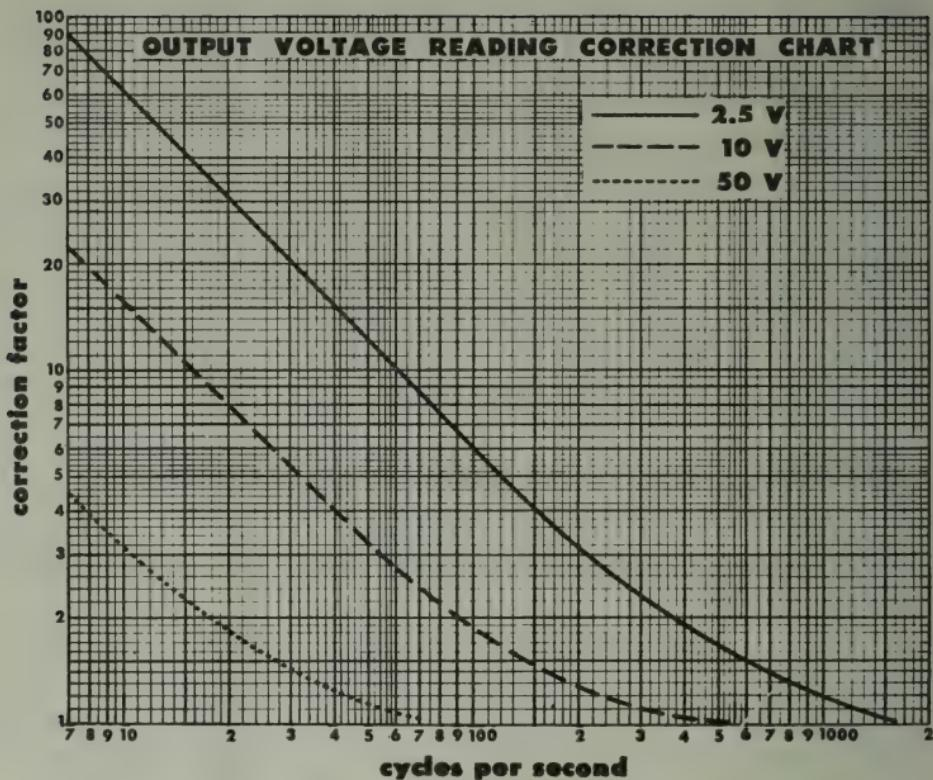

FIG. 1
Fig. 1 shows the internal connections for d-c voltage measurement. Near the center of the diagram is the OUTPUT-AC-DC function switch, S2, which is set at DC (1) when the instrument is to be used as a d-c voltmeter, S1-A, S1-C, and S1-D are each sections of the 4 pole, 12 position RANGE switch S1. Only the five voltage positions are shown, positions and ranges corresponding as follows: 1 -- 1KV-5KV, 2 -- 250V, 3 -- 50V, 4 -- 10V, 5 -- 2.5V. As is shown in the diagram, all five voltage positions of sections S1-A and S1-C respectively are shorted together, whereas in section S1-D, each position introduces a different resistance in series with the meter. External test connections are made by inserting the tips of the test leads in pin jacks J3 (- COMMON) and J4 (+) on all voltage ranges except the 5000V range, when jacks J3 and J5 (D. C. 5000V) are used.